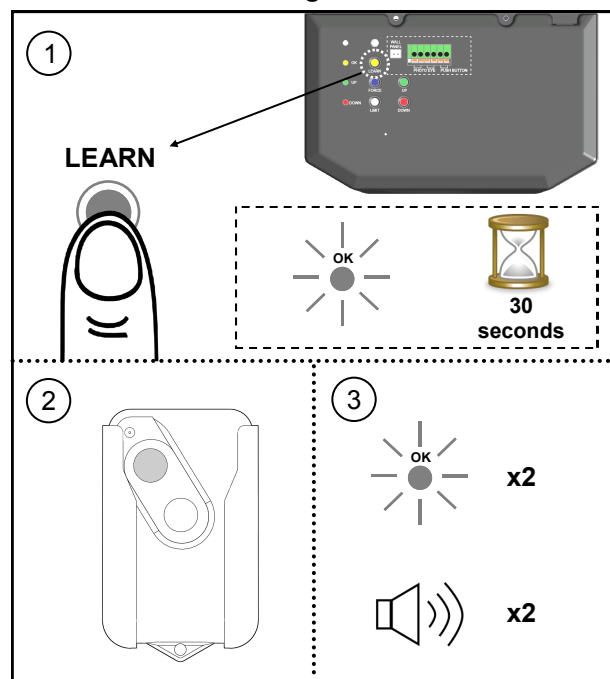

Fig.2
1. Press/release the “LEARN” button once on the rear control panel, “OK” LED will glow and beep. The unit is now ready to accept a remote control in the next 30 seconds as shown in Fig.2.